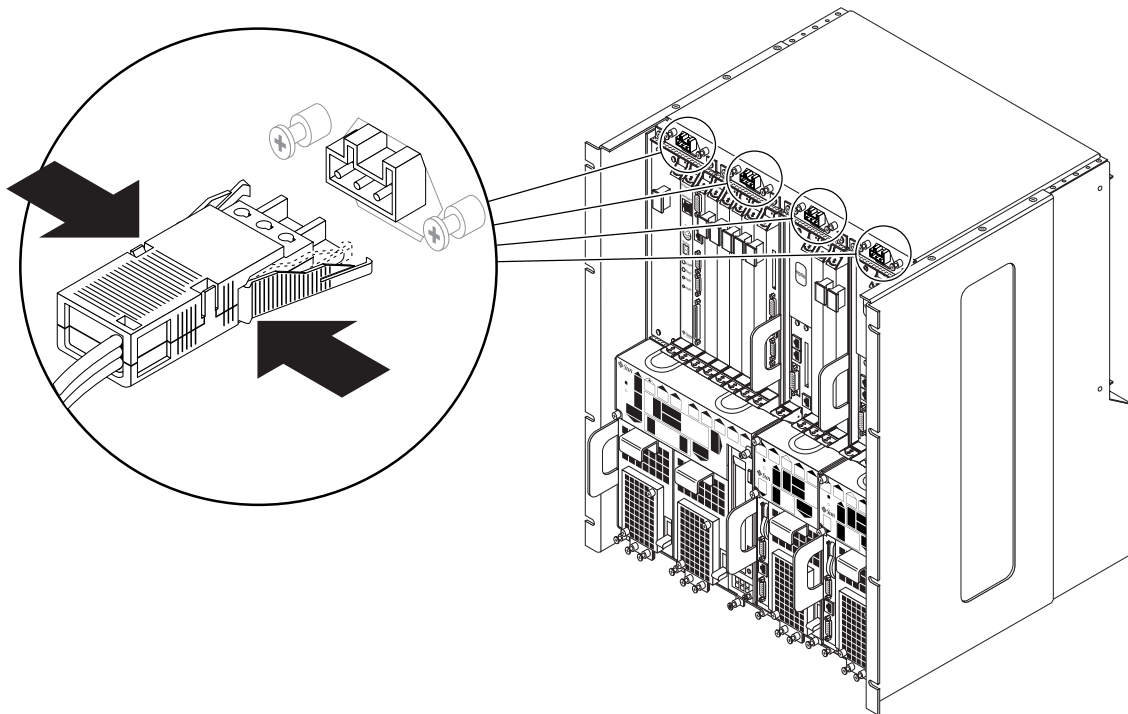

FIGURE 11-12 Unplugging the DC Input Power Cable From the DC Connector, Front-Access Model
- 2. Unplug the DC input power cable from the DC connector at the front of the chassis (FIGURE 11-12).**
5. Connect the DC input power cable to the DC connectors at the front of the chassis (FIGURE 11-12).